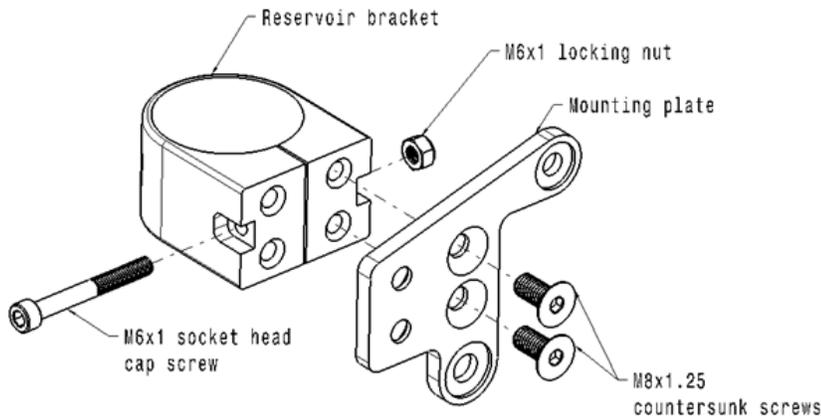

Figure 6: Driver Side
- K. Assemble the reservoir brackets onto the mounting plates using the M8x1.25 countersunk screws as shown in Figures 6 and 7. Torque the M8x1.25 countersunk screws to 10 lb•ft (13.6 N•m). Do not torque the M6x1 cap screw at this time.